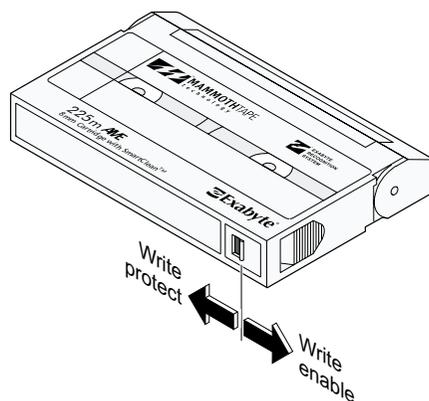

Figure 3-4 Setting the write-protect switch
2. Set the write-protect switch for the desired operation, as shown in Figure 3-4.